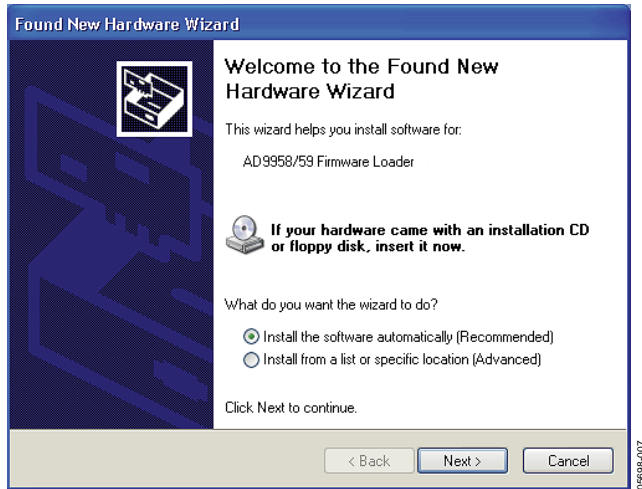

Figure 7.
3. When the USB cable is connected, the screen below appears (Figure 7). Click **Next** to continue.